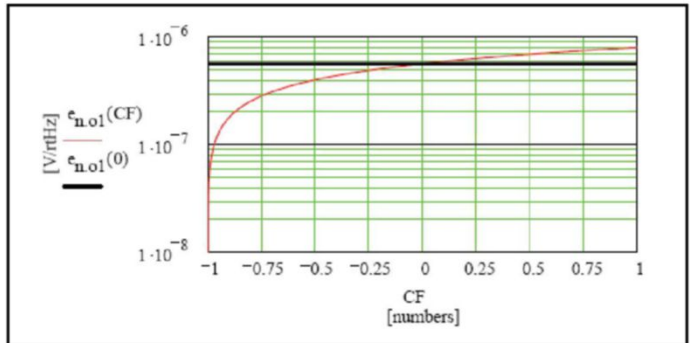

Figure 23: Calculated output of TI's model (black) vs. the CF-dependent trace of equation (4) is shown here.
Figure 23 shows the evolution of Equation (4) with $CF = -1 \dots 0 \dots +1$ (red). The crossing with the black curve, which is the constant value of TI model's voltage noise density in B100k, leads also to the fact, that there is practically no correlation between the current noise sources. In the course of the calculation, the tiny difference between the calculated and the simulated results comes from not taking into account the input resistance of the OPA.